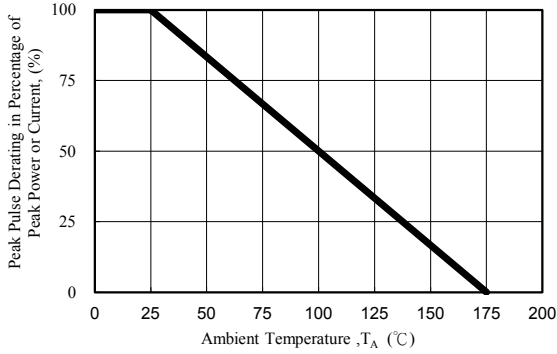
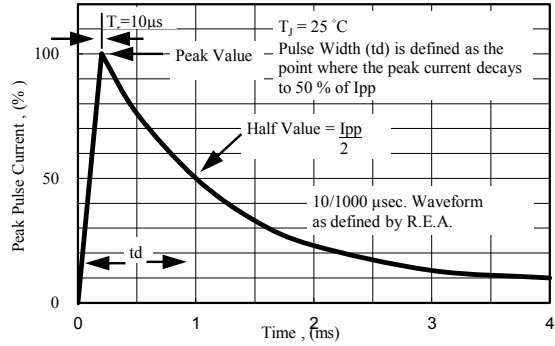

Fig. 1 - Pulse Derating Curve
Fig. 2 - Pulse Waveform
(1)Non-repetitive current pulse per Fig.2 and derated above $T_A=25\text{ }^\circ\text{C}$ per Fig.1